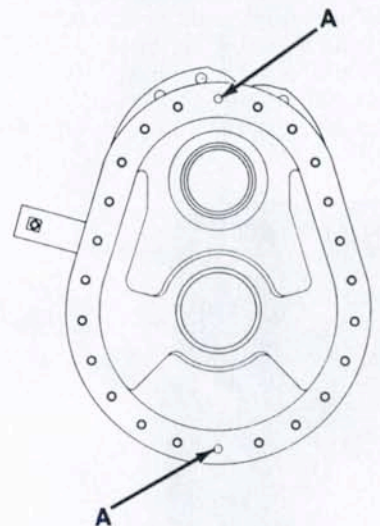

Fig. 136—When reassembling cover to axle case, tighten alignment bolts (A) first, then tighten remainder of mounting cap screws.
When reassembling final drive, install oil seal (14) with lip facing inward. Be sure to reinstall gear shaft (2) and bull gear (8) together. Make certain spacers (7 and 9) are against bull gear and shims (6 and 10) are against bearings. Tighten axle nut (4) to a torque of 150-195 N·m (110-145 ft.-lbs.). Tighten axle cover alignment bolts (A - Fig. 136) first, then tighten cover mounting cap screws evenly to a torque of 48-56 N·m (36-41 ft.-lbs.).
tightening. Tighten axle cover alignment bolts (A—Fig. 136) first, then tighten remainder of cover cap screws evenly to a torque of 48-56 N·m (36-41 ft.-lbs.).
To reassemble final drive reverse the disassembly procedure. Be sure to lubricate oil seal lip with grease prior to reinstalling axle shaft. Tighten axle nut (5) to a torque of 245-295 N·m (180-215 ft.-lbs.). Tighten axle cover alignment bolts (A—Fig. 136) first, then tighten remainder of cover cap screws evenly to a torque of 54-59 N·m (40-43 ft.-lbs.).